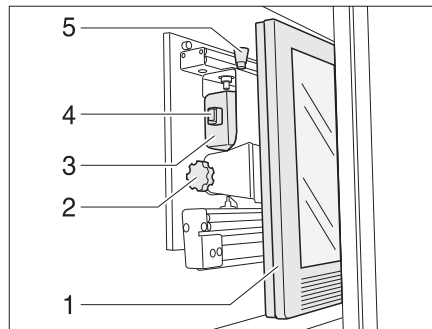

Fig. 130 TV cabinet
- Press the release knob (Fig. 130,5) and pull the holder for the flat screen forward as far as possible by the handle (Fig. 130,4).
- Pull the release knob (Fig. 130,1) and swivel flat screen (Fig. 130,2) to the desired position.
- Loosen knurled screw (Fig. 130,3).